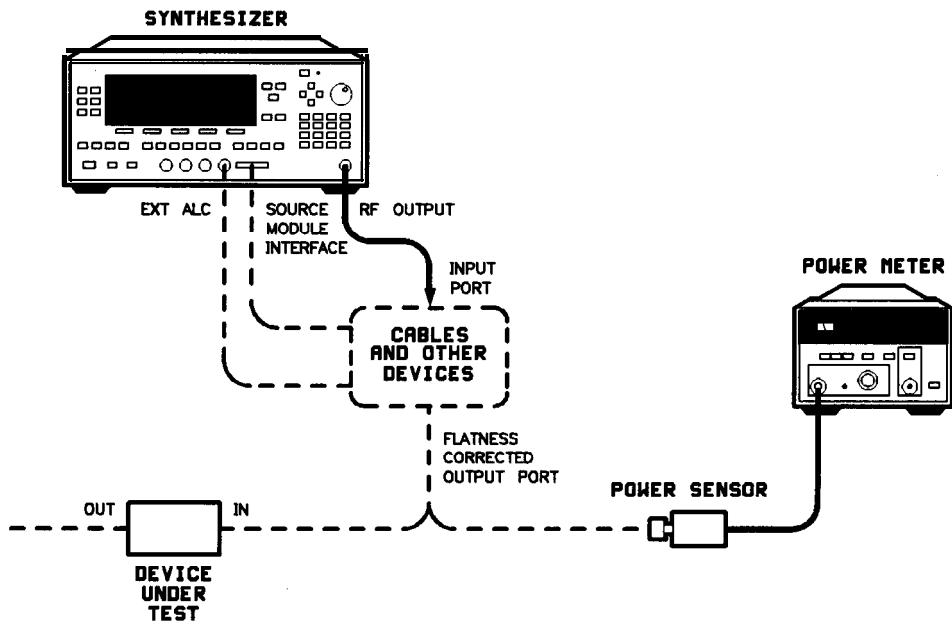

Figure 1-19. Creating a User Flatness Array
There are two basic front-panel methods of creating a flatness correction array. The first and quickest method is to use an HP 437B power meter. Refer to Figure 1-18 for the setup. The second method is just as accurate, but requires a little more interaction between the operator and the instruments. Figure 1-19 shows the setup for the second method.
1. The equipment setup shown in Figure 1-19 assumes that if your setup has an external leveling configuration, the steps necessary to correctly level have been followed. If you have questions about external leveling refer to earlier paragraphs titled, “Externally Leveling the Synthesizer.”